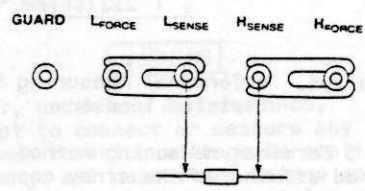

Figure 2-1. 2 Terminal Measuring Method
a. 2 Terminal measuring method. This method is used when testing a specimen whose impedance is approximately 100Ω to $10 k\Omega$. Refer to Figure 2-1.